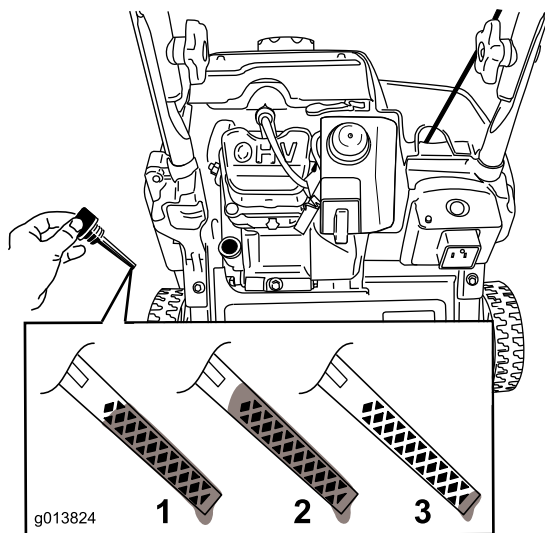

Figure 26
**Note:** To determine the proper oil level on the dipstick, refer to Figure 26.
**Note:** Fill the engine crankcase with oil until the dipstick indicates that the engine-oil level is correct as shown in Figure 26. If you overfill the engine with oil, remove the excess oil from the drain plug into an oil-drain pan.